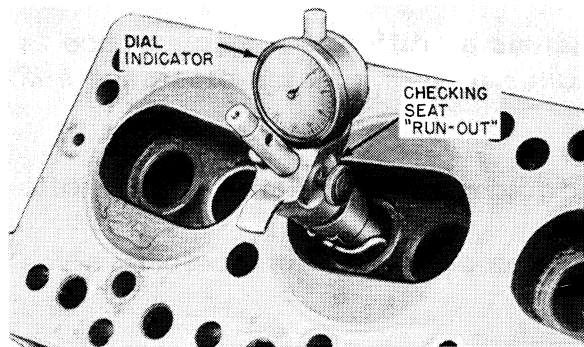

Figure 20 - Valve Seat Run Out
4. Check concentricity of valve seat with dial indicator: .002 is maximum allowed runout. Figure 20.